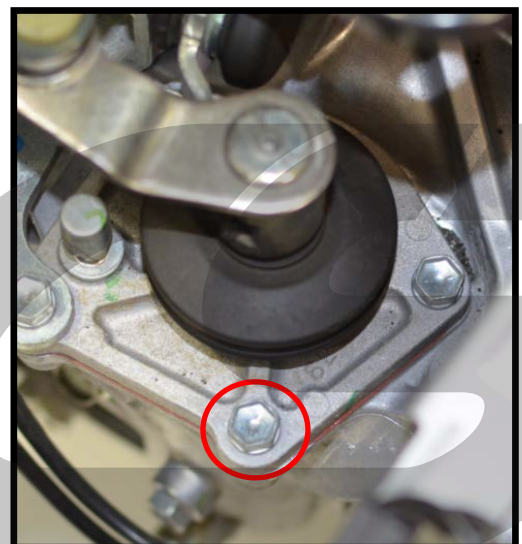

Figure 7c
- c) **Remove the shifter assembly plate bolt** using a 12mm socket and ratchet. Red circle in **Figure 7c**.